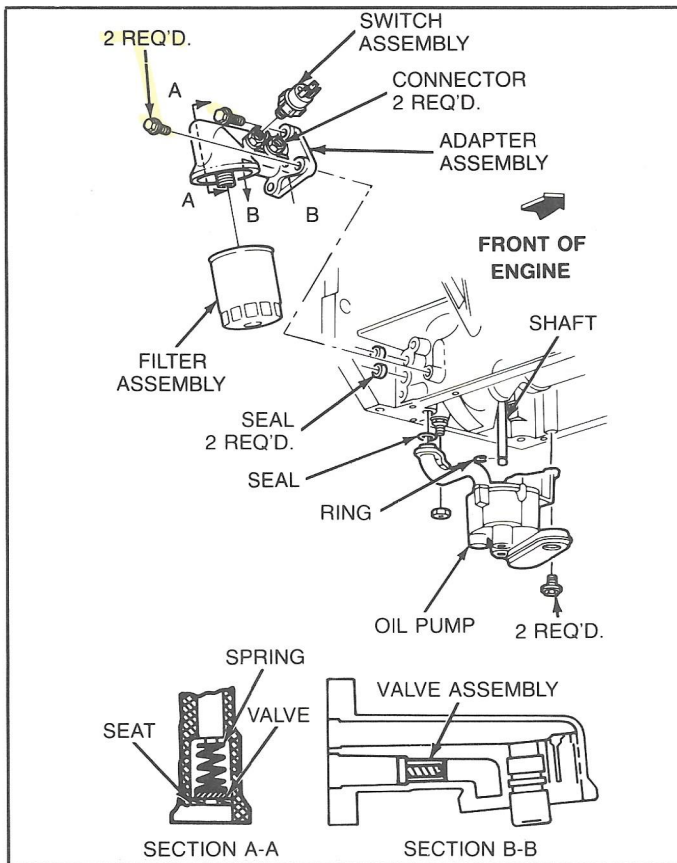

Figure 6D1-34 Oil Filter Pump and Adapter
Two square cut seals are used to seal the oil passages between the oil filter adapter and the engine block. **Figure 6D1-34**. Care must be used when installing the seals to be sure they are located against the adapter seats. These seals should be replaced whenever the adapter is removed from the block.
3. Reinstall oil pan screws and nuts and torque to 15 N·m (15 ft. lbs.), **Figure 6D1-35**.